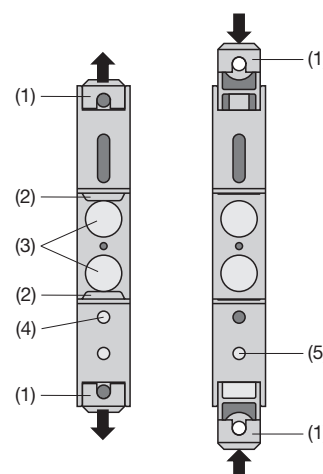

Fig. 5. Rear of device.
While pressing the latch (4) in the base of the device (Fig. 5, left) pull out the transmitter securing brackets (1). To return the brackets to their original positions, the latch (5) in the base of the device has to be depressed before applying pressure to the securing brackets (1) (see Fig. 5, right).